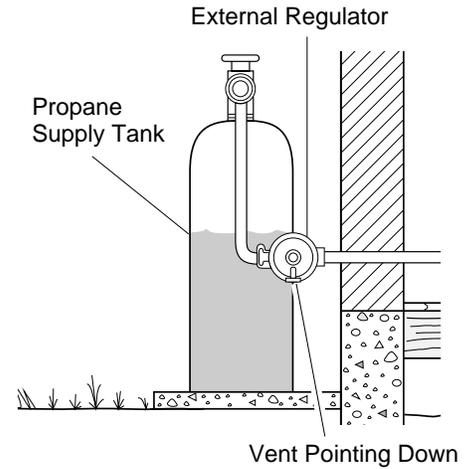

Figure 30 - External Regulator With Vent Pointing Down
- external regulator (supplied by installer, see Figure 30)
The installer must supply an external regulator. The external regulator will reduce incoming gas pressure. You must reduce incoming gas pressure to between 11 and 14 inches of water. If you do not reduce incoming gas pressure, heater regulator damage could occur. Install external regulator with the vent pointing down as shown in Figure 30. Pointing the vent down protects it from freezing rain or sleet.